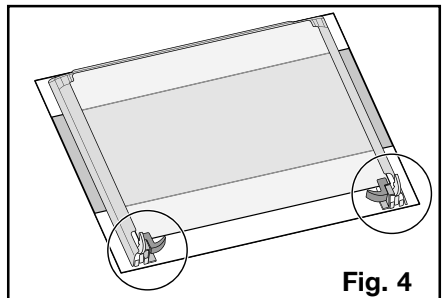

Fig. 4
6. Place the door on a stable surface protected by a soft cloth to prevent the handle surface from being damaged (Fig. 4).